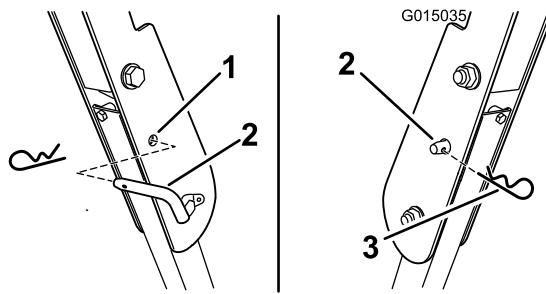

Figure 3
3. Install the locking pins. Secure the pins by installing the hair cotter pin (Figure 3).
4. To lower the roll bar, remove the hair cotter pin and remove the locking pin (Figure 3).